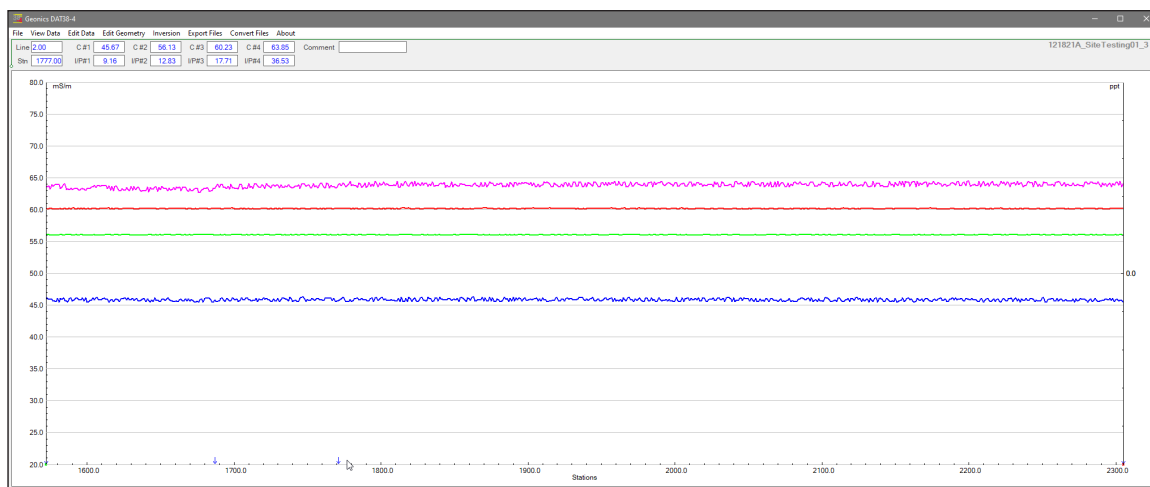

Figure 4.15 DAT38-4 screen with Drift Corrected profiles (compare with Figure 4.11 or 4.12)
- Green arrows indicate that drift correction has not been performed. After correction, these arrows change to blue (see Figure 4.15).
5. Once complete, the corrected profile plots are redrawn, and the Drift Control Points are shown as blue arrows (Figure 4.15).